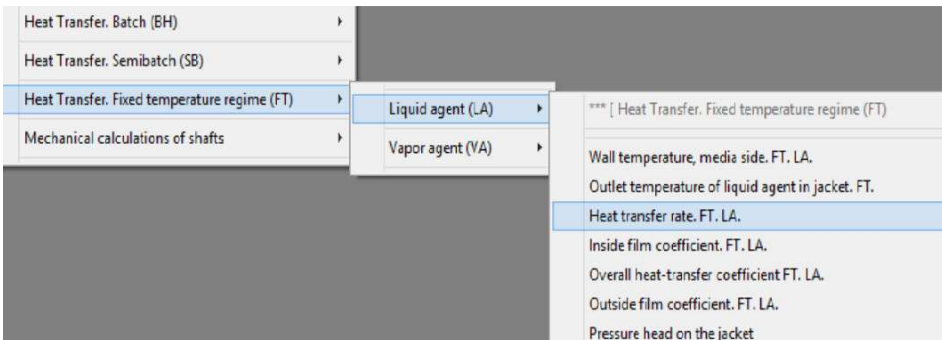

Figure 10. Heat Transfer calculation menu.
5. Entering additional data and calculation of heat transfer parameters for a fixed temperature regime (Fig. 10)